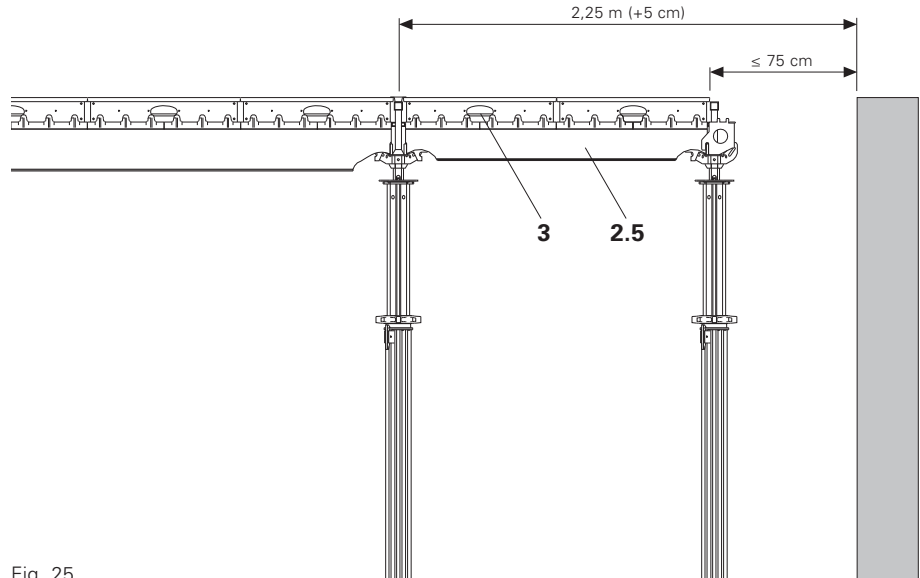
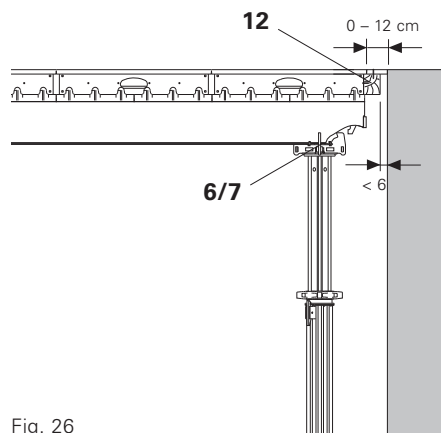

Fig. 25
Fig. 26
1. Continue forming with prop, Compensation Beam SLT 150 (2.5) and Panel SDP (3) as in the standard field. (Fig. 25)
- Prophead SSK (6) or
- Drophead SFK (1) and
- Combihead SCK (7)
- Edge Beam SRT (9)
- End Support SSL (10)
- Filler Timber SPH (11)
- square-shaped timbers (12) are securely nailed before elements are assembled.
21 mm formlining provided by the contractor, additional prop with crosshead and formwork girder (15). (Fig. 26 - 29)